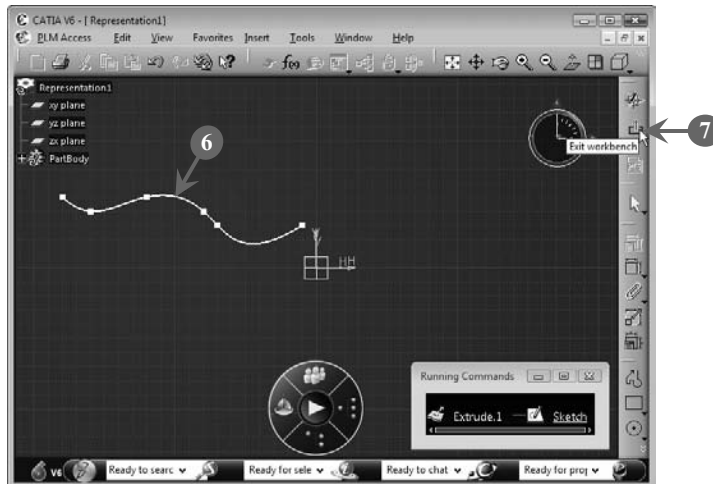

FIGURE 5.28
6. Draw a spline, which works as the profile to be extruded (**Figure 5.28**).
7. Click the **Exit workbench** button on the **Workbench** toolbar to exit the Sketcher workbench, as shown in Figure 5.28: